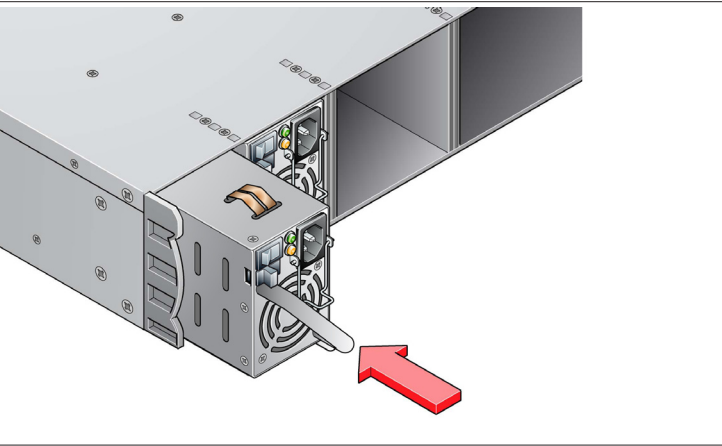

Figure 5: Inserting the Power Supply Module
- Slide the module into the enclosure (Figure 5).